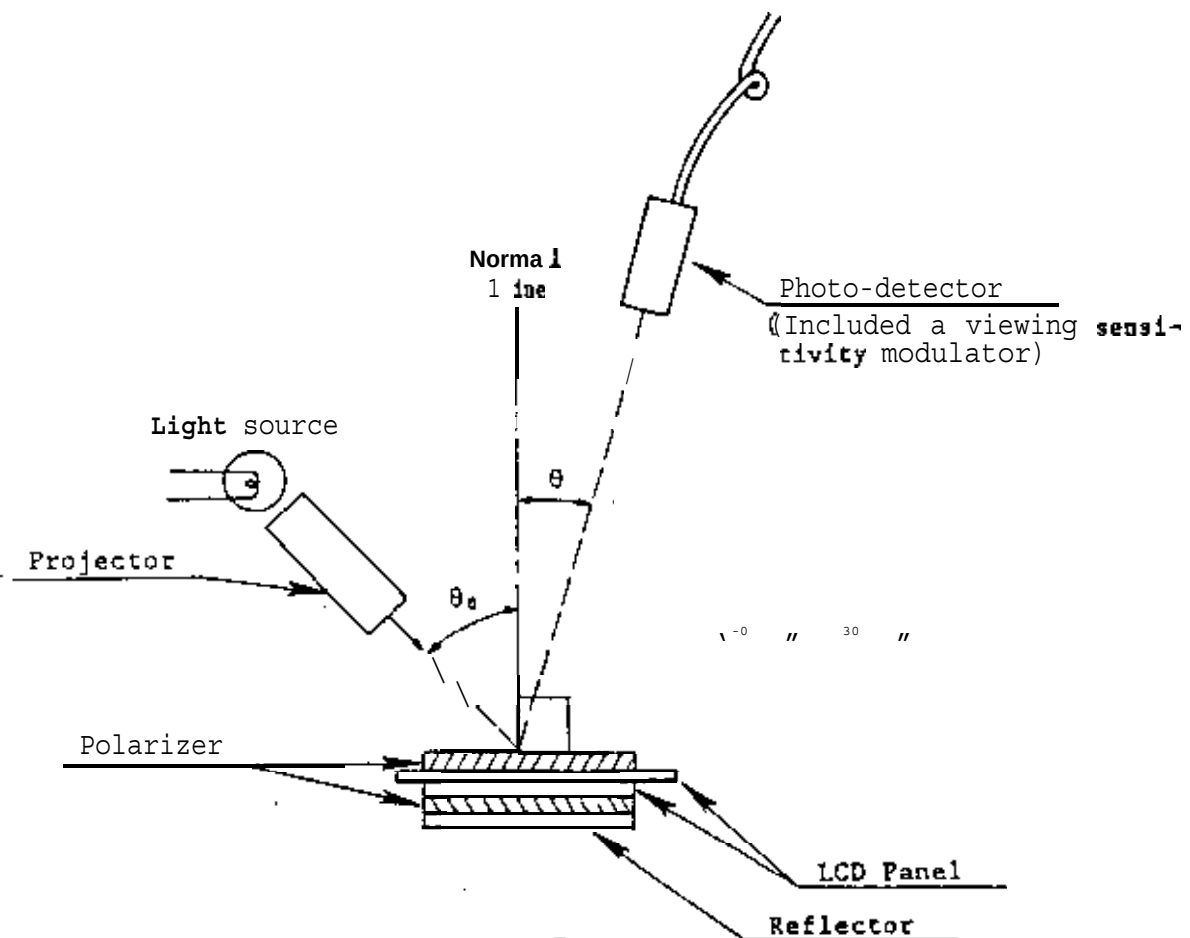

Fig. 3 Optical Characteristics Test Method
Contrast ratio is calculated by using the following formula when the waveform voltage (Fig. 4) is applied in the optical characteristics test method (Fig. 3).
- Note 3) The **response** characteristics of photo-detector output are measured as shown in Fig. 4, assuming that input signals are applied so as to select and deselect the dots to be measured, in the optical characteristics test method shown in Fig. 3.